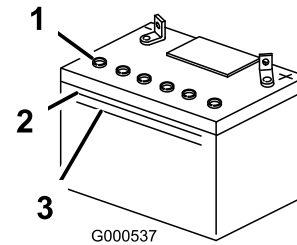

Figure 51
3. Look at the side of the battery. The electrolyte must be up to the **upper** line (Figure 51). Do
not allow the electrolyte to fall below the lower line (Figure 51).
5. Remove the vent caps from the battery (Figure 51).
6. Slowly pour distilled water into each battery cell until the electrolyte level is up to the Upper line (Figure 51) on the battery case.
7. Wait 5 to 10 minutes after filling the battery cells. Add distilled water, if necessary, until the electrolyte level is up to the Upper line (Figure 51) on the battery case.